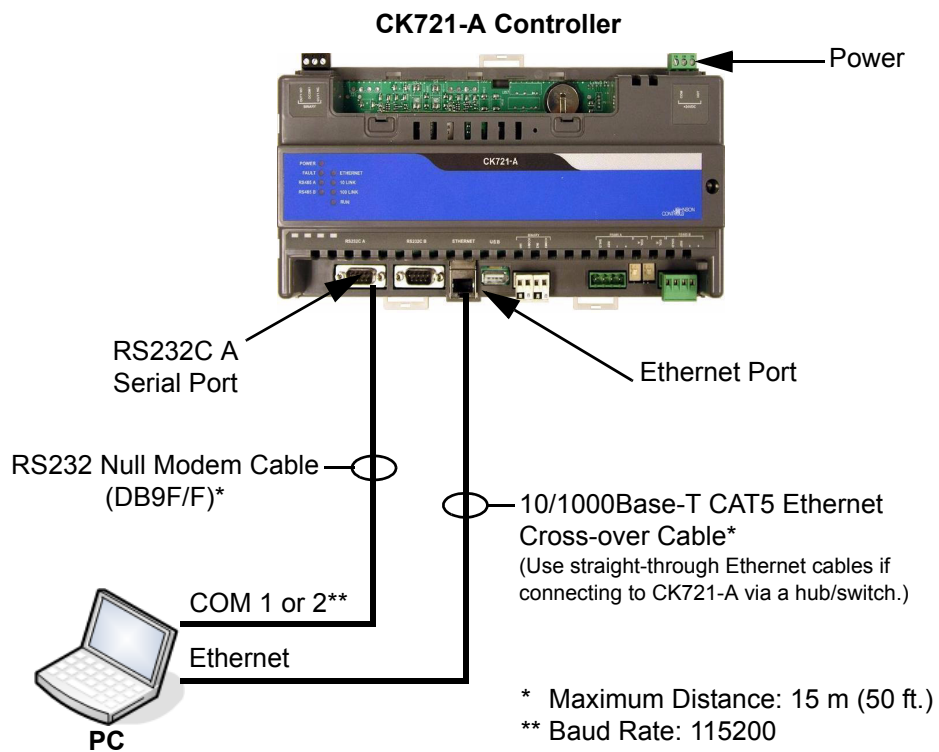

Figure 1: PC to CK721-A Controller Connections
1. Connect the RS232 Null Modem Cable to the PC's **COM 1** or **COM 2** port (see Figure 1). Connect the other end of the cable to the CK721-A's **RS232C A** port.